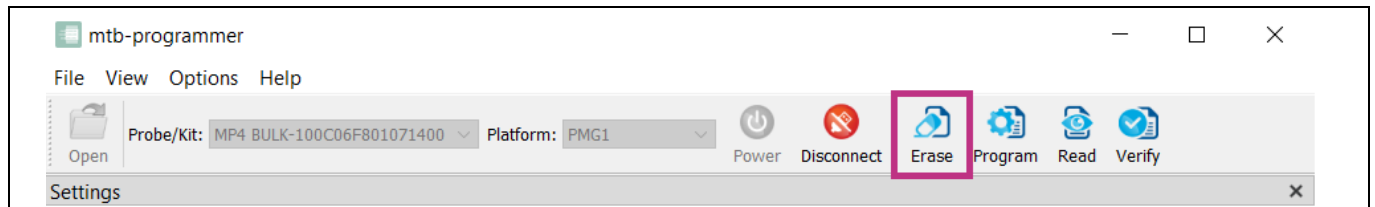

Figure 13 Erase the flash of target
7. Click **Erase** to erase the flash (see Figure 13).